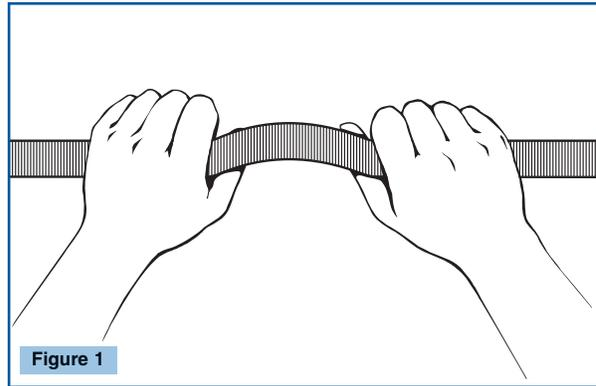

Figure 1
**1. Inspect stitching and webbing.** Check stitching for broken, burned, cut, or pulled stitches. Broken strands of webbing appear as tufts on the webbing surface. To visually check for damage caused by corrosives, heat, chemicals, and other conditions, hold the connecting device with your hands six to eight inches apart. Bend the webbing in an inverted “U” to cause surface tension and expose problem areas. Inspect entire length. (See Fig. 1)